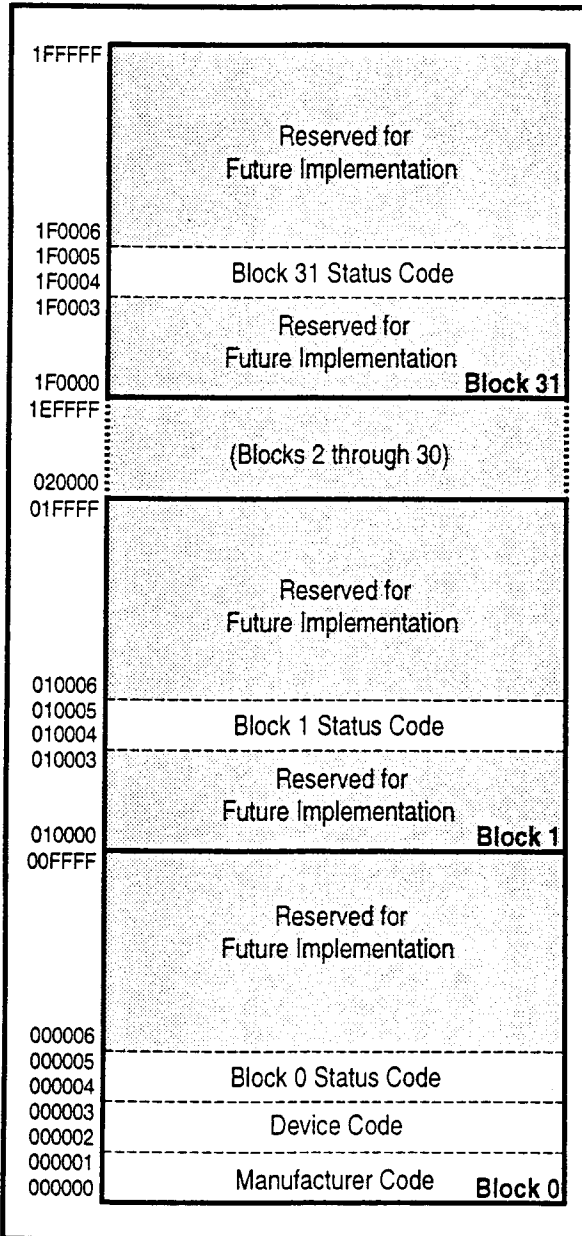

Figure 8. Device Identifier Code Memory Map
The read identifier codes operation outputs the manufacturer code, device code, block status codes for each block (see Figure 8). Using the manufacturer and device codes, the system CPU can automatically match the device with its proper algorithms. The block status codes identify locked or unlocked block setting and erase completed or erase uncompleted condition.
IA=Identifier Code Address: see Figure 8.
The identifier code operation is initiated by writing the Read Identifier Codes command. Following the command write, read cycles from addresses shown in Figure 8 retrieve the manufacturer, device, block lock configuration and block erase status (see Table 5 for identifier code values). To terminate the operation, write another valid command. Like the Read Array command, the Read Identifier Codes command functions independently of the V_{PP} voltage and $RP\#$ must be V_{IH} . Following the Read Identifier Codes command, the following information can be read:
1. X selects the specific block status code to be read. See Figure 8 for the device identifier code memory map.